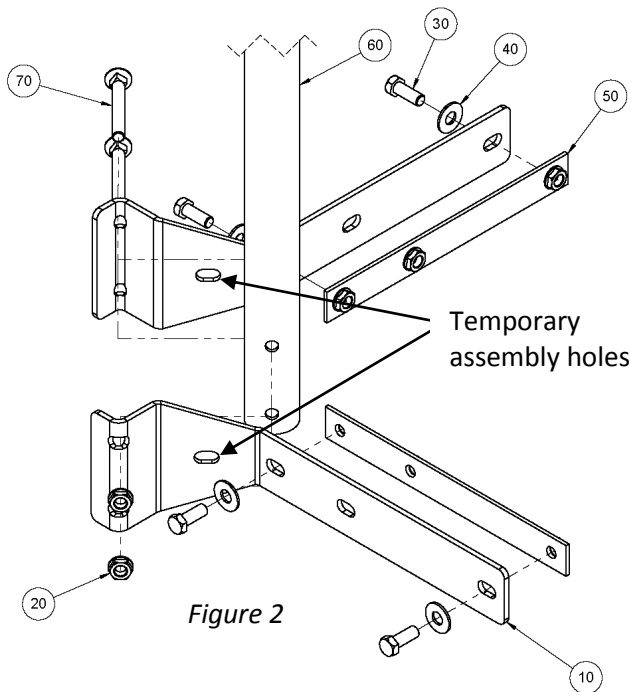

Figure 2
**Corner Posts and Post Brackets:** (See Figure 2) Note the position of the door in open position.
- Temporarily assemble **corner brackets** using temporary assembly holes in bracket halves (10) and a 3/8-16 nut and bolt (20, 30) See Figure 2.
- Temporarily assemble **center brackets** using temporary assembly holes in bracket halves and a 3/8-16 nut and bolt. *(See Figure 2 for example with corner brackets)*